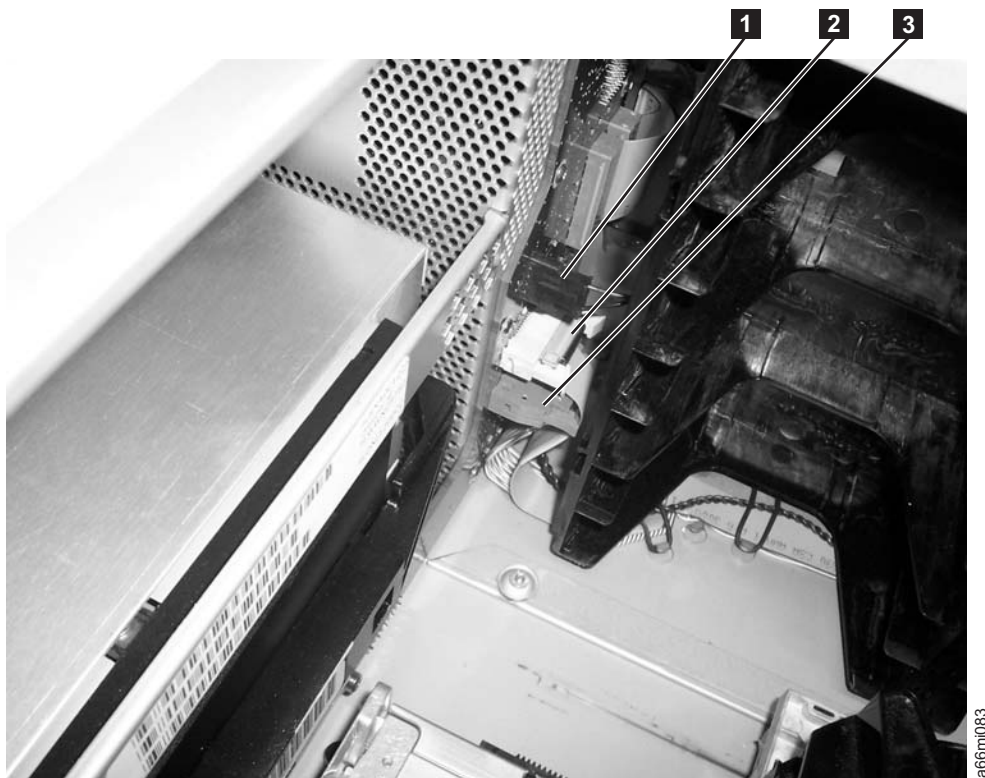

Figure 7-12. Backplane Connect Board connectors (front, top cover removed)
3. Visually check, and reseat if necessary, all of the connectors on the front of the Backplane Connect Board (BCB). See **1**, **2**, and **3** in Figure 7-12 on page 7-31.